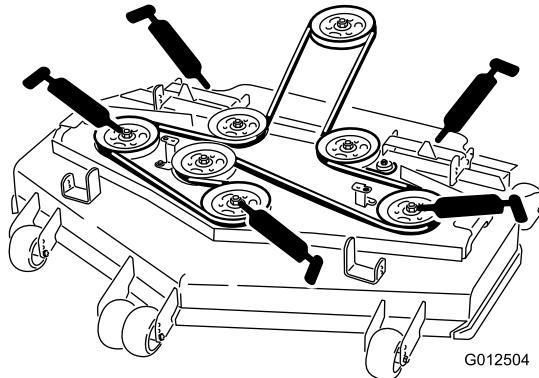

Figure 30
4. Grease the three spindle bearings until grease comes out (Figure 30).
5. Grease the fittings on the push arms (Figure 30).